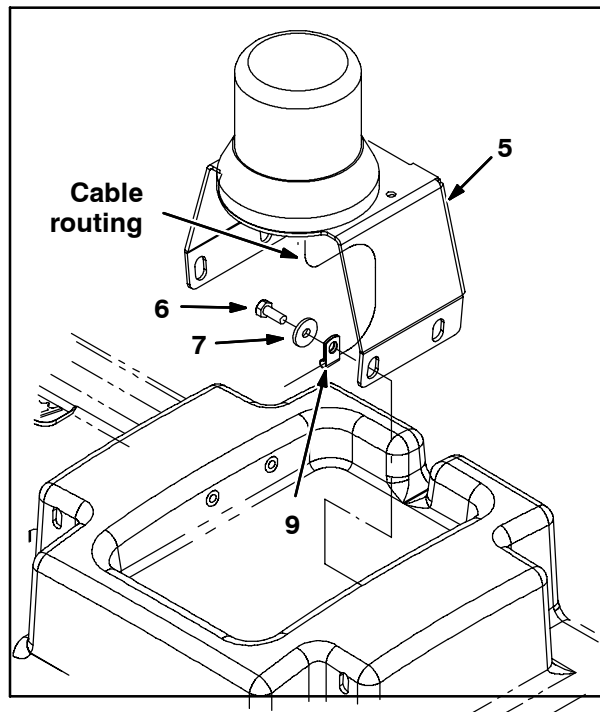

FIG. 6
4. Route the warning/backup harness (8) through the notch in the solution tank and install a cable clamp (9) onto the warning/backup harness. Refer to Fig. 6.
6. Use a hex screw (6) and flat washer (7) to install the cable clamp (9) on the warning/backup harness (8) onto light support bracket (5) and solution tank. Refer to Fig. 6.